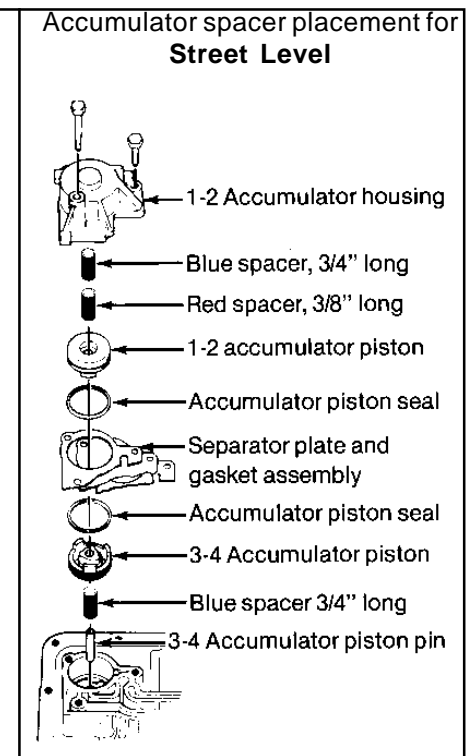

Figure 11
**STEP 14. Street Only;** Place the 3-4 accumulator pin in the case (See Fig. 11). Place the **BLUE** (3/4") spacer and accumulator piston over the pin, using a dab of grease or petroleum jelly to hold them in place.